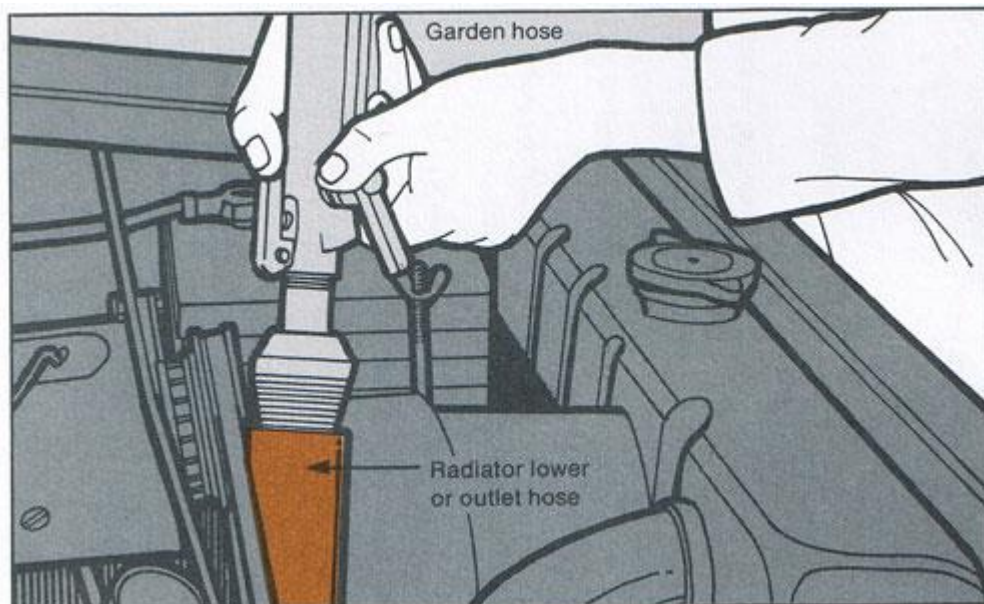

Fig. 12
- Remove the hose and insert it into the lower radiator hose. This will force the water upward through the radiator until it is flushed clean (Fig. 12).